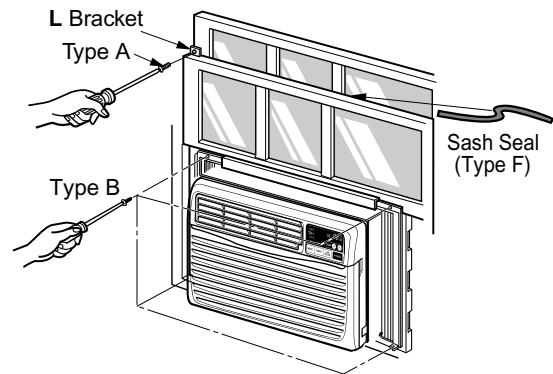

Figure 11
Extend the guide panels (TYPE F) to fill the window opening using 4 screws (TYPE B) to secure them, as shown in Figure. 11.
- Cut the sash seal (TYPE E) to the window width. Stuff the sash seal between the glass and the window to prevent air and insects from getting into the room, as shown in Figure. 11.
- Fasten the L bracket using a (TYPE A) screw, as shown in Figure. 11.